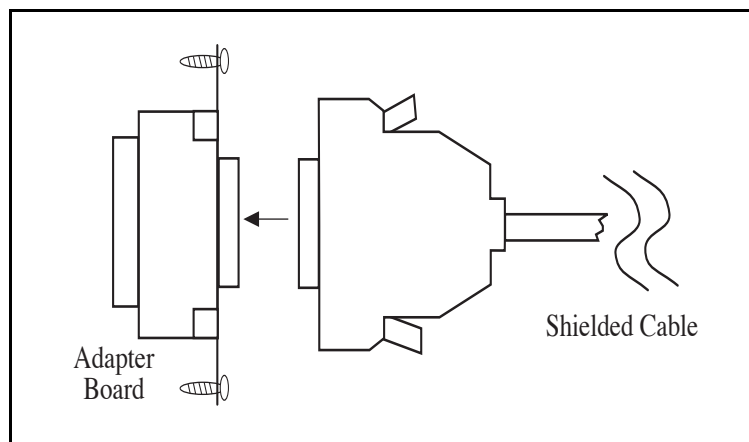

Figure 5. Cable to Adapter Board Connection
7. Connect the 68-pin connector (the end without the grounding strap) of the SCXI-1345 cable to the 68-pin connector of the SCXI-1345 adapter board as shown in Figure 5.